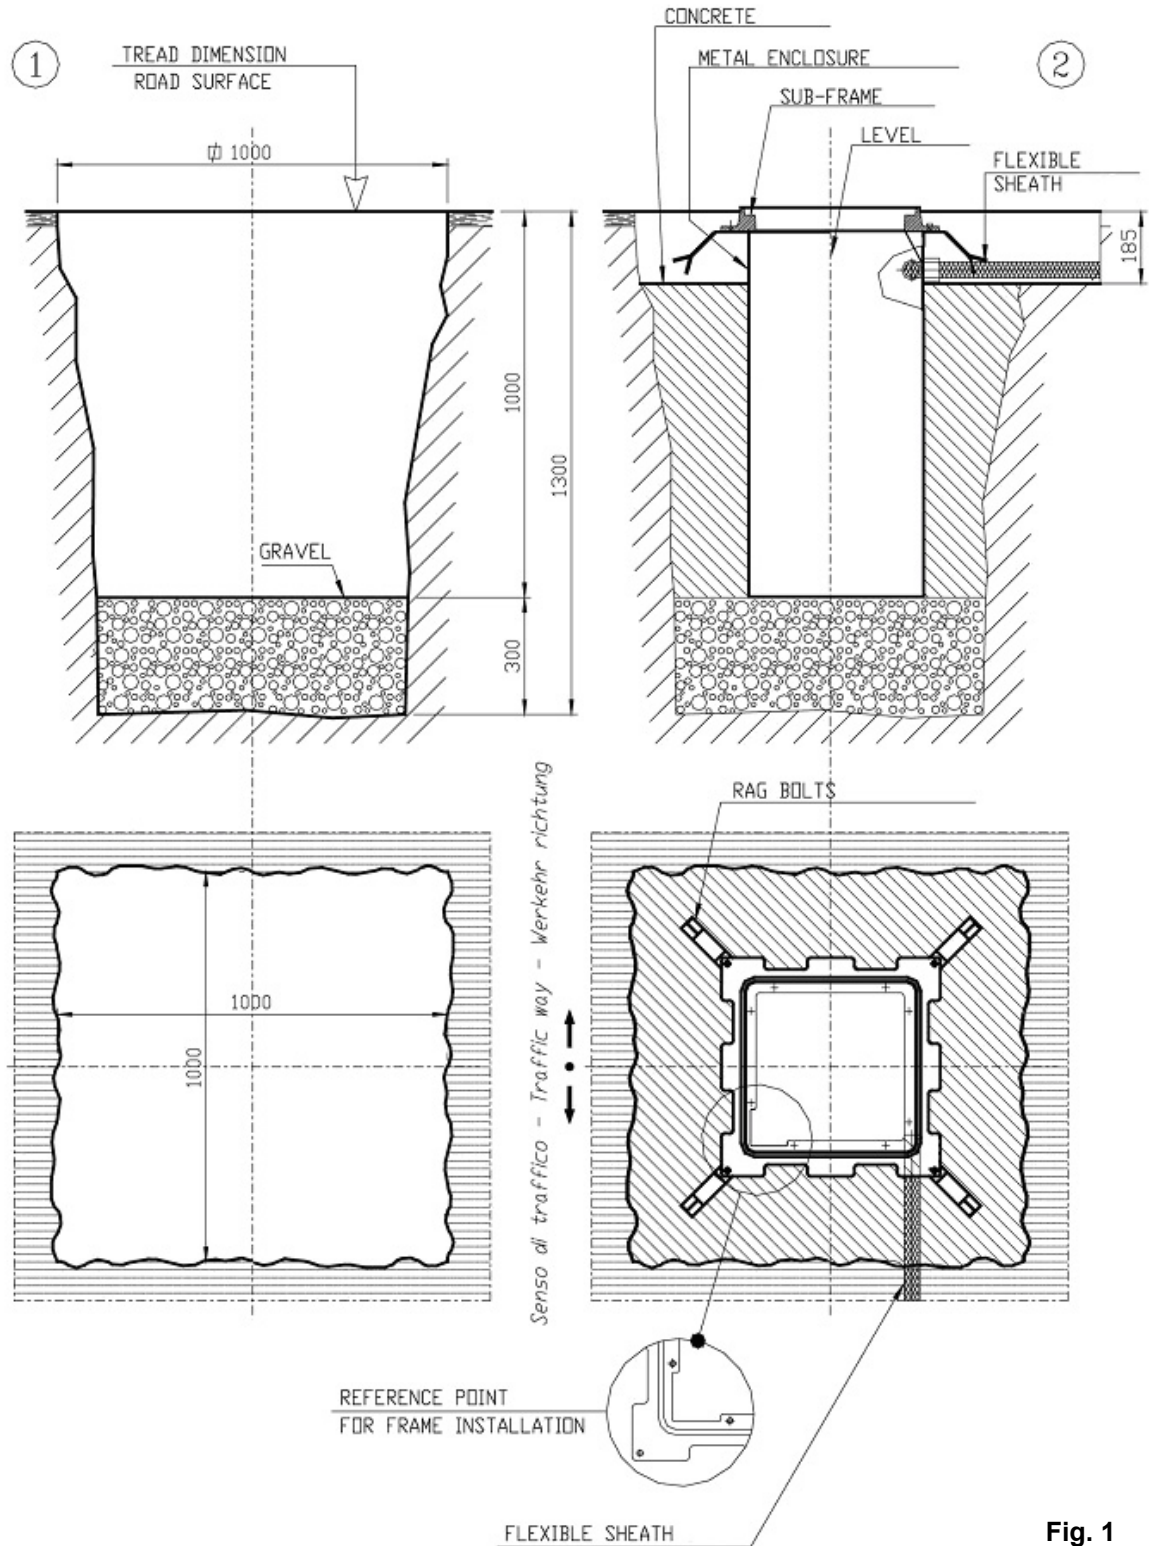
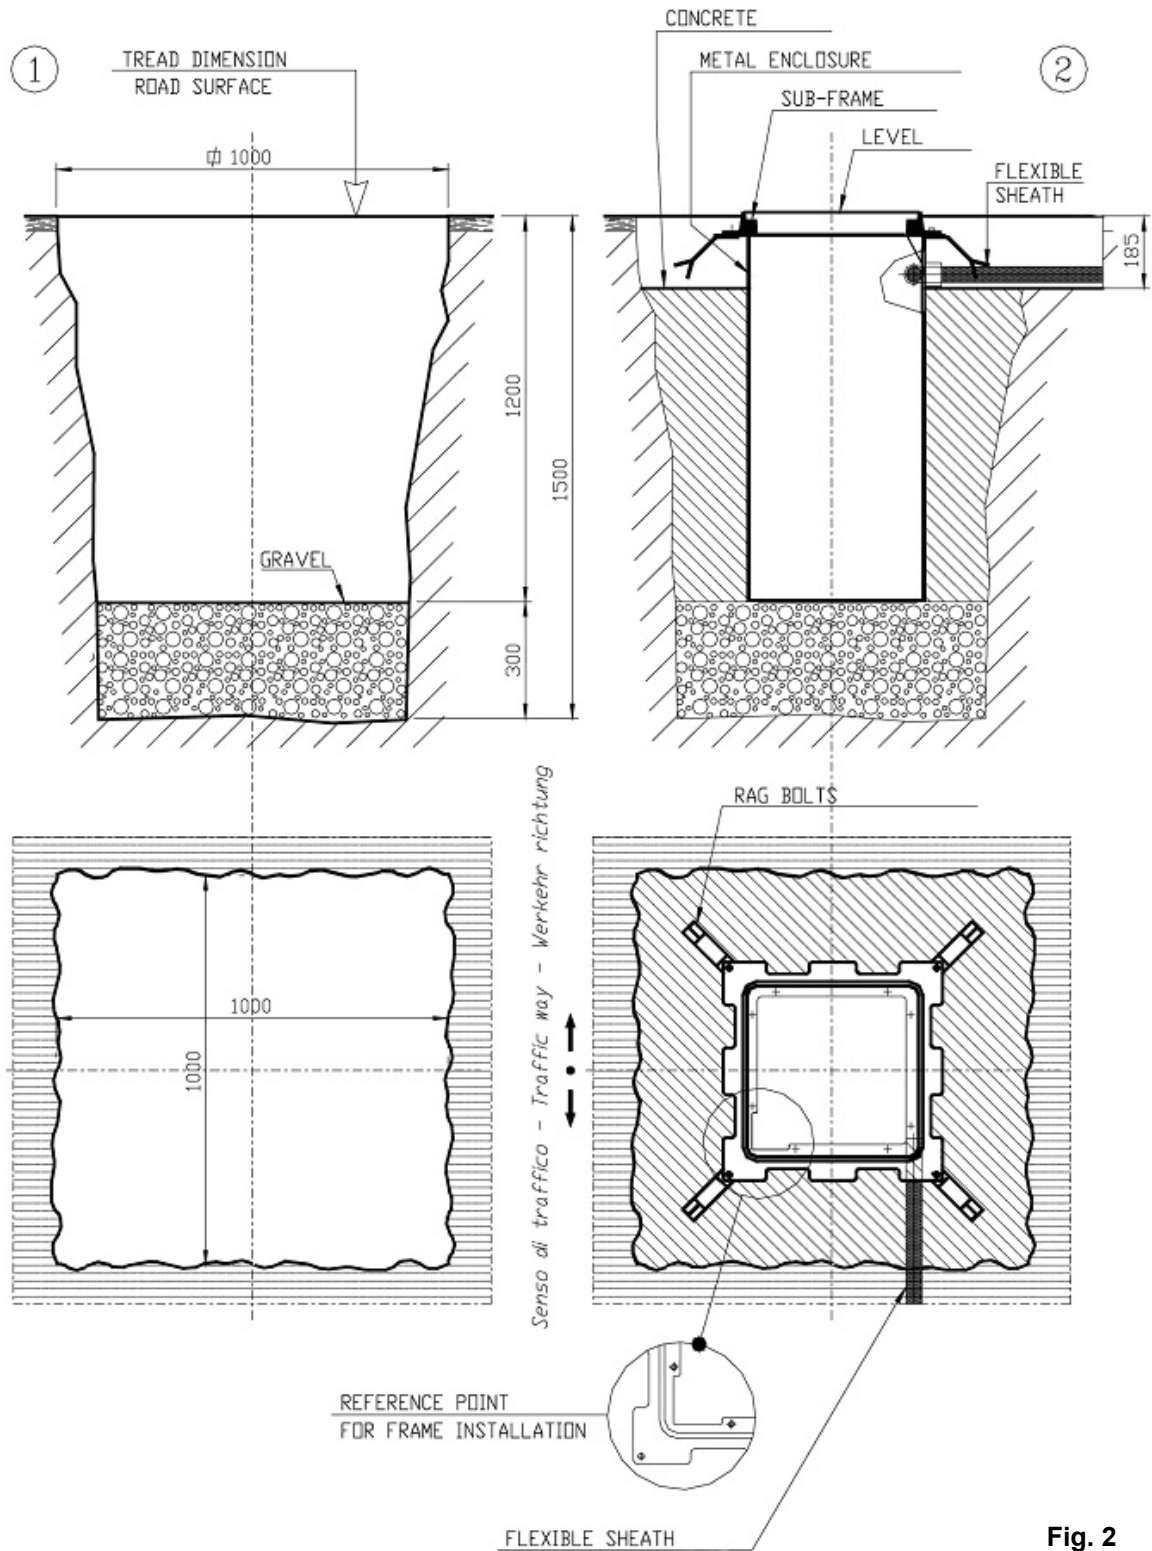

Fig. 1
Fig. 2
- 2) Excavate down to a depth of about **1.30 m** (275 H600) or about **1.50 m** (275 H800); the cross-section must have a side of about **1 m** (fig. 1 and fig. 2).
- 5) Lay the metal pit complete with sub-frame, taking care to place it perfectly vertical. The top level of the sub-frame must be positioned about 10 mm higher than the tread surface (to limit entry of rainwater into the pit). **Position the pit, checking the position of the reference on the sub-frame in relation to the transit direction (fig.1 and fig. 2).**